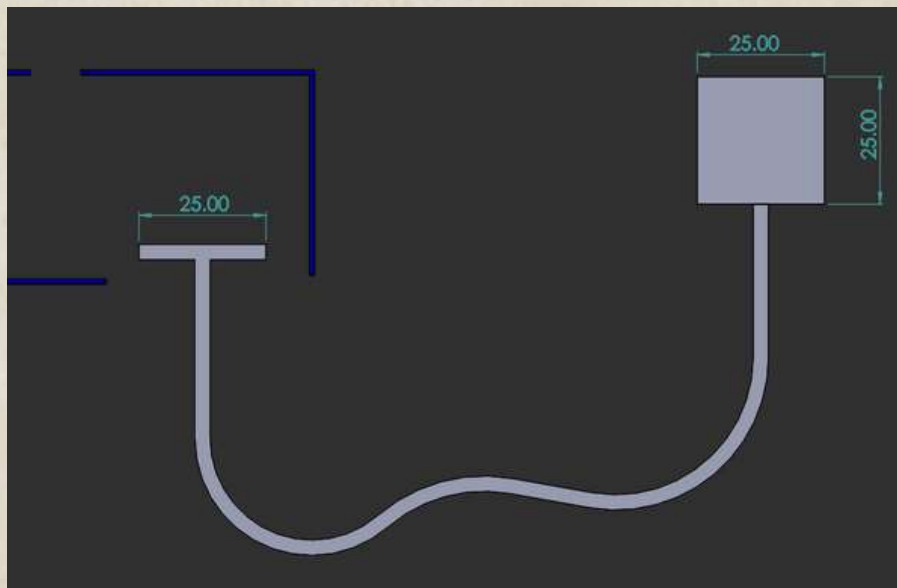
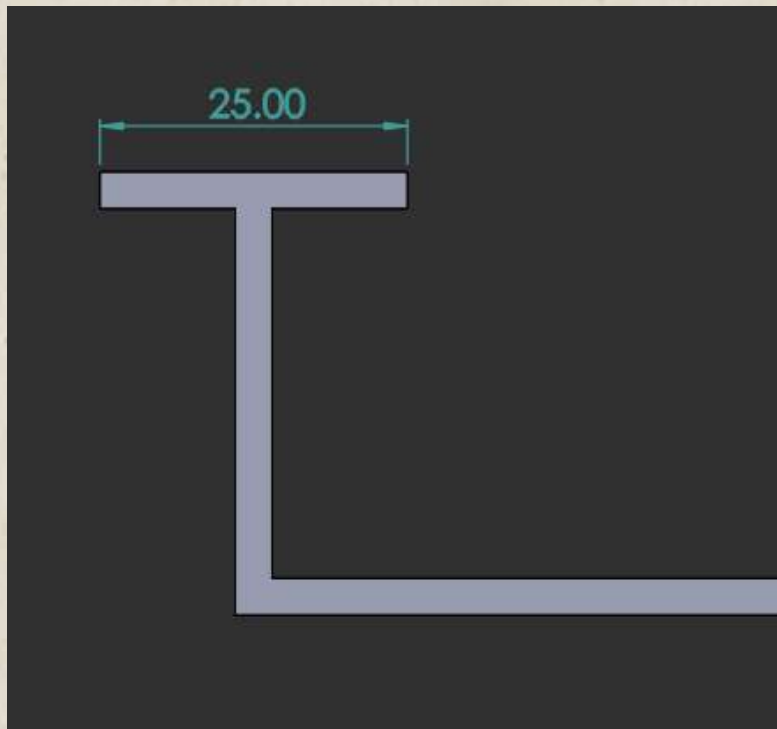

Figure 2.2 - Sample line segment 1 (dimensions are in cm)
Figure 2.3 - Sample line segment 2 (dimensions are in cm)
2. As shown in figure 2.2 and figure 2.3, any of the line segment paths may contain straight lines or curved lines. In addition, there can be 90-degree corners along the path.
5. At the beginning and end of the line following part, there is a T- shaped line (as shown in figures 2.2 and 2.3) to indicate the start and the end of the line. (end of the line segment 1, beginning of the line segment 2)